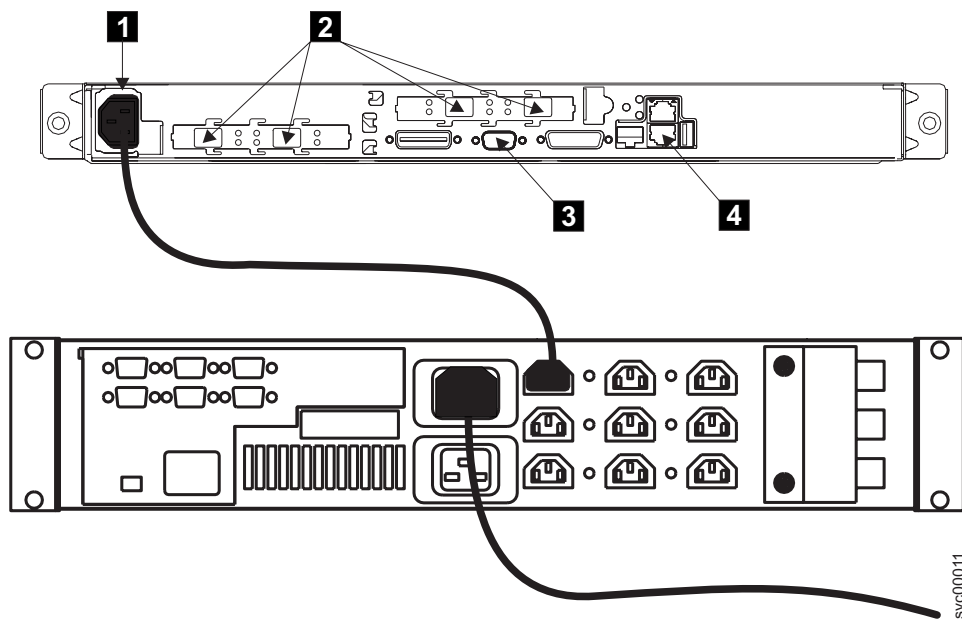

Figure 3. Power cable and signal sockets
Figure 3 shows the connectors for the SAN Volume Controller and the uninterruptible power supply (UPS) 5125.
2. Ensure that the power cable is plugged in to the UPS 5125. Also ensure that the other end of the power cable is connected from the UPS 5125 to the distribution point in the rack. See Figure 3.